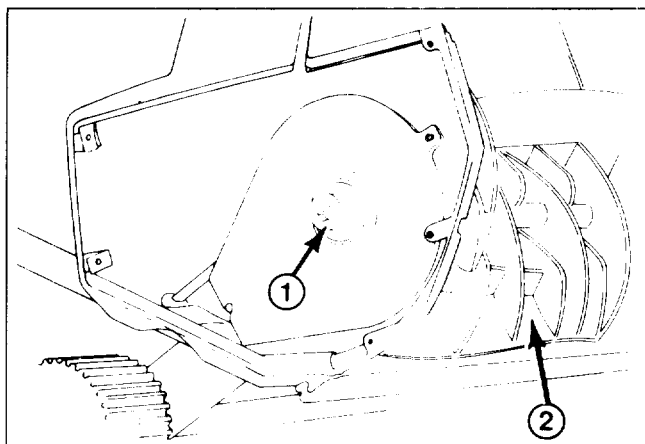

Figure 10
2. Using a 3/8" Allen wrench, turn the rotor shaft clockwise (left hand thread) while holding the rotor (Fig. 10). The Allen wrench may need to be tapped with a hammer to loosen the rotor shaft. Wedge a stick or hammer handle in rotor to prevent rotation.